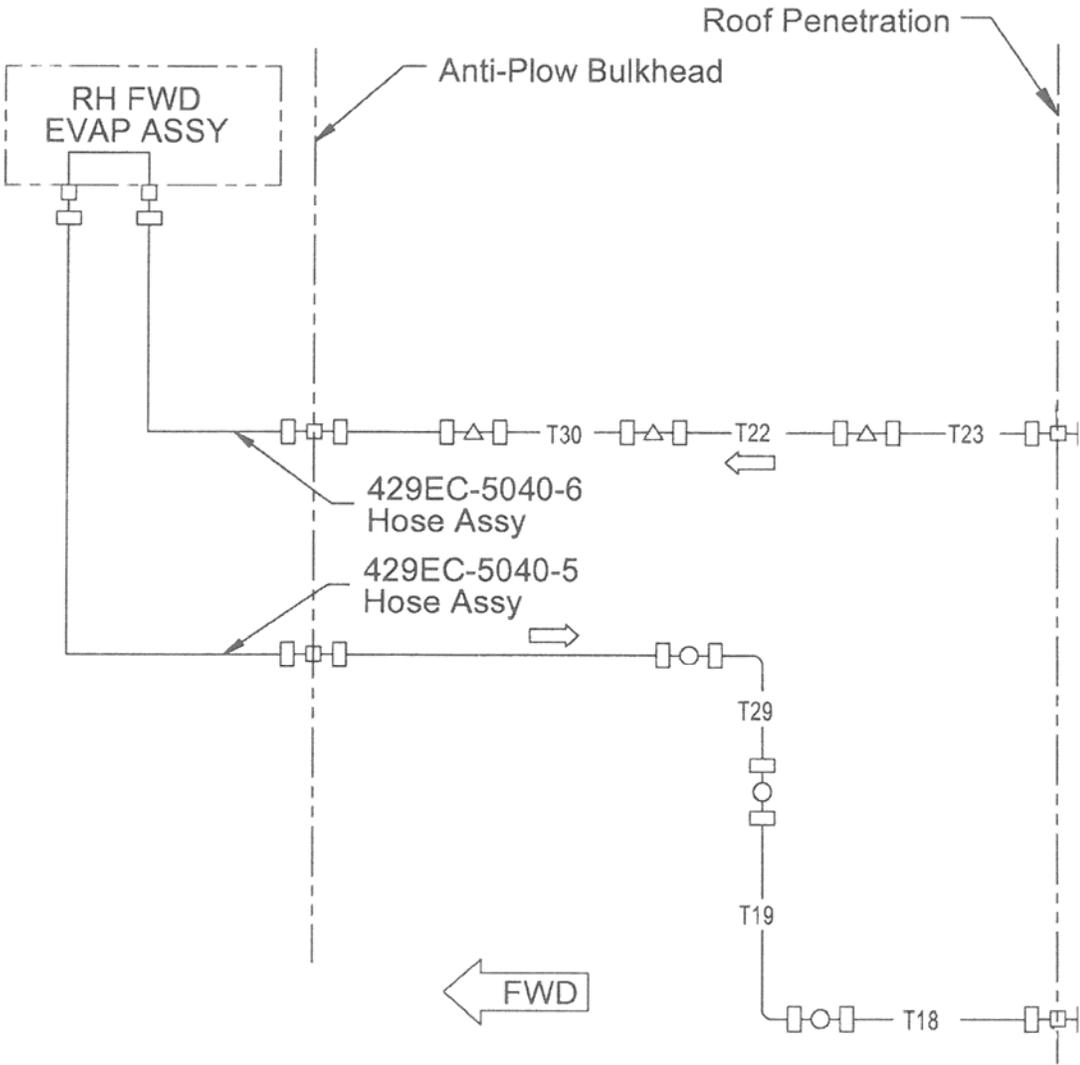

Figure 6: Single Forward Evaporator Plumbing Schematic
4. Install 429EC-5040-5 and 429EC-5040-6 Hose assemblies between the S-6029EC-2 Right Forward Evaporator and the bulkhead fittings, see Figure 6.